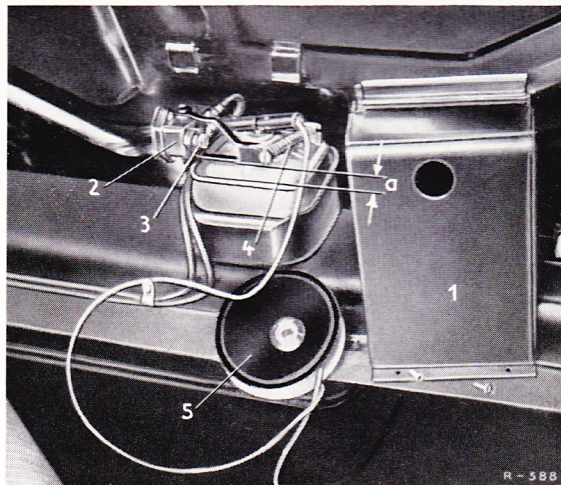

Fig. 25-0/18
The electrical switch contact at the rear axle is adjusted with the aid of a testing light. After removing the cover plate (1) in the trunk compartment, a testing light (5) with an adequate length of cable, is connected to the positive terminal of the battery and to the switch connection marked with a + (Fig. 25-0/18).